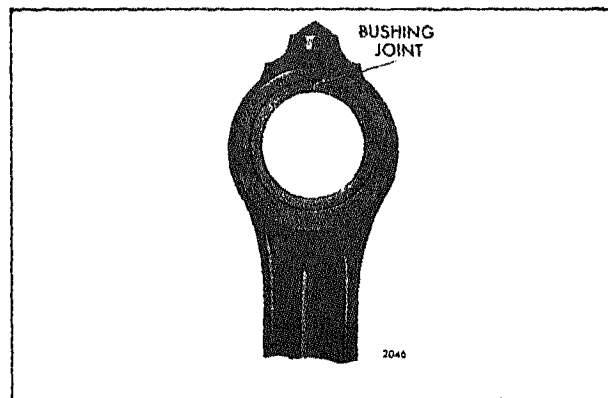

Fig. 7 - Location of Bushing Joint
2. Start a new bushing straight into the bore of the connecting rod, with the bushing joint at the top of the rod (Fig. 7).